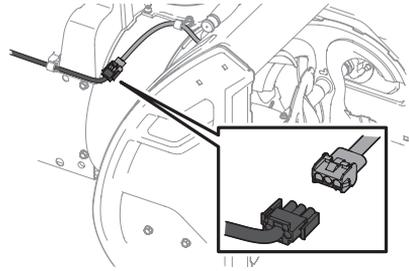

Figure 82
**NOTE:** On models equipped with the LED light bar on top of the auger housing, make sure to unplug the wire harness before removing the belt cover (Figure 82).